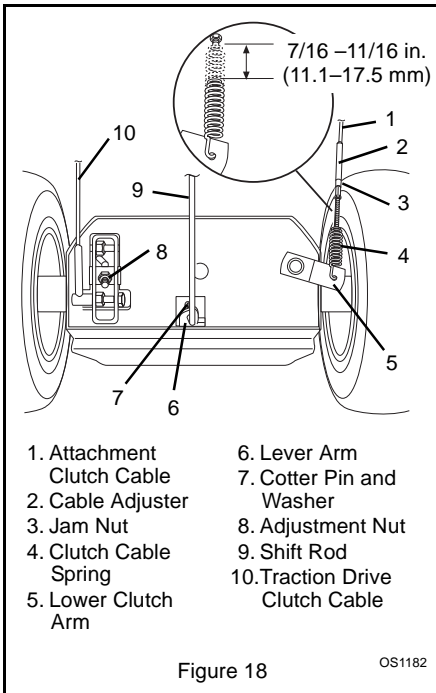

Figure 18
(Figures 18 and 19)
- Place speed selector in First (1) Forward.
- With traction clutch disengaged turn wheels while tightening adjustment nut (Figure 18), at clutch yoke.